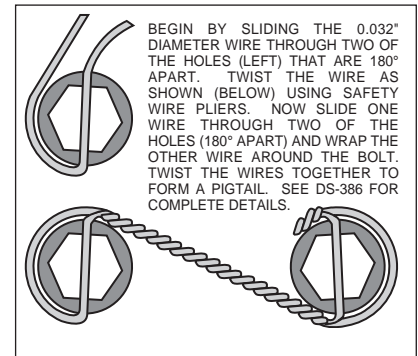

Figure 3. Safety Wire Diagram
- The caliper mount bracket assembly (1) should be installed first with clean, dry threads on the mounting bolts. Install the bracket (1) on the inboard side of the hub by sliding bolt (2) through washer (3). Place two shim washers (4) between the bracket (1) and the mounting ears. The bracket must tighten squarely against the inboard side of the caliper mounting ears on the upright. Inspect for interference from casting irregularities, machining ridges, burrs, etc. Later, after the caliper, pad, and rotor alignment has been checked, and any necessary shims have been put in place, the mounting bolts should be coated with red *Loctite*® 271 and torqued to 47 ft-lbs.
- With the larger I.D. side of the rotor (6) facing away from the hat (7), bolt rotor (6) to hat (7) through the backside of the rotor using washers (8) and bolts (9). Using an alternating sequence, apply red *Loctite*® 271 to the threads and torque bolts to 140 **in-lb**. For an added measure of security, the bolts may be safety wired using standard 0.032 inch diameter stainless steel safety wire as shown in Figure 3. Please refer to Wilwood's data sheet DS-386 (available at [www.wilwood.com/Pdf/DataSheets/ds386.pdf](http://www.wilwood.com/Pdf/DataSheets/ds386.pdf)) for complete safety wire installation instructions.
- Lubricate caliper mounting studs (13) and nuts (11) with lightweight oil. Install two shims (14) over each stud (13) on the radial mount bracket (1). Slide the caliper (10) in place over the studs and rotor. Snug the lock nuts (11) and check that the rotor (6) is centered in the caliper (10). Add or subtract shims (4 and/or 5) as necessary between the caliper mount bracket (1) and the caliper mounting ears on the upright assembly to center the caliper. **NOTE:** *Move the rear suspension through its complete range of motion checking for any interference between the Wilwood brake caliper and suspension components.* For optimum clearance, it may be necessary to reverse the sway bar end-link mounting bolt with the nut inward, away from wheel.
- Remove the caliper center bridge pad retainer bolt, nut, and tube from the caliper. Slide the brake pads (15) into place. They should install easily without interference. Check that the outside radius of the brake pad is flush with the outside diameter of the rotor face. Add or subtract shims (14) between the caliper and mount bracket to gain the proper alignment. Reinstall the center bridge pad retainer tube, bolt, and locknut. The locknut should be snug without play in the bolt or tube. Be cautious not to over tighten.
- Adjust the parking brake shoes outward (using a drum shoe adjustment tool available at your local auto parts store) while spinning the hat (7) until a slight drag is felt against the hat/drum. Remove the lug nuts that were holding the hat/rotor in place. Install the wheel and lug nuts. Check to see that the wheel rotates freely without interference.
- Once all clearances have been checked, remove the wheel, caliper, hat/rotor from the axle flange. Secure the caliper mounting bracket (1) to the OEM caliper mounting ears, bracket to be secured with bolts (2) using red *Loctite*® 271 on threads. Torque the bolts to 47 ft-lbs. Reinstall the hat and rotor assembly and again use several lug nuts to hold it in place. Reinstall the caliper, torque the caliper nuts (11) to 30- ft-lbs.